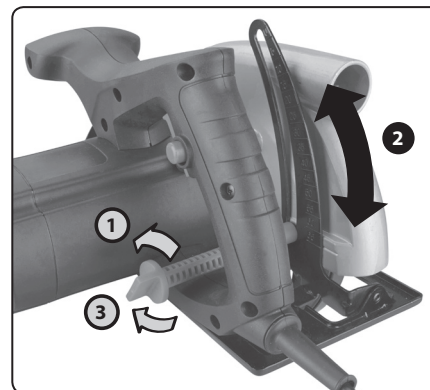

Fig. 3A
1. Loosen the cutting depth adjustment nut (fig. 3A, Step 1).
2. Lift the saw off the base plate according to the required cutting depth (fig. 3A, step 2). The cutting depth can be read off the scale, see fig. 1, position 21. The greater the distance from the base plate, the smaller the cutting depth.
3. Then firmly secure the saw at the set height by tightening the nut (fig. 3A, step 3).